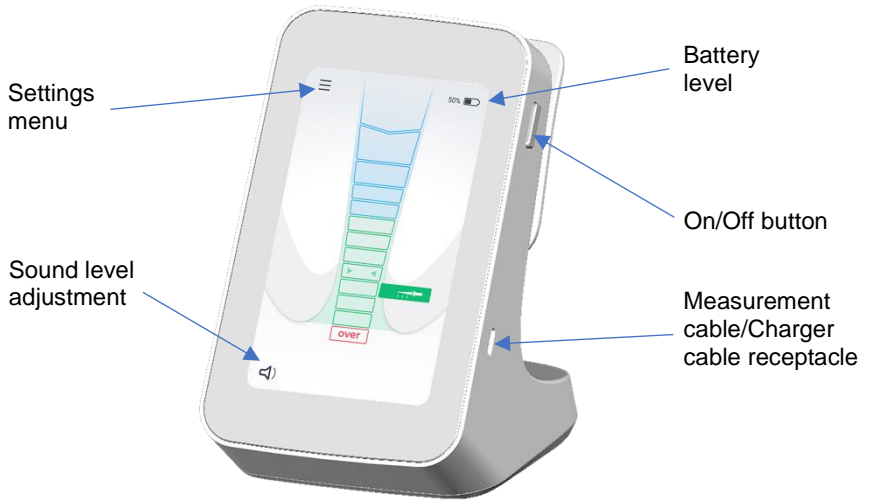

Fig. 1 Front view
3. Connect the charger cable to **X-Smart® Apex Locator** USB-C receptacle located on the right side of the device. See Fig. 1